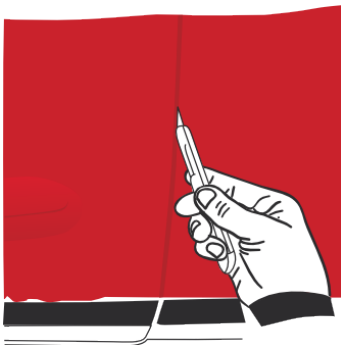

Figure 25
- › For carrying out the cutting, the cutter blade must be placed against the thin edge of the part to be covered. During cutting, make sure you always follow this edge by inclining the cutter towards the outside. (FIG. 25)